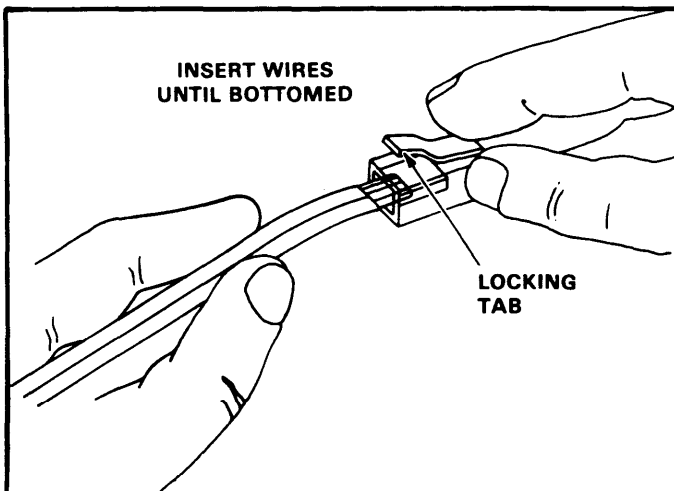

Fig. 4
1. Taking care to maintain proper conductor polarity for application, insert conductors into wire slots in connector until wires are fully bottomed in connector. See Figure 4.